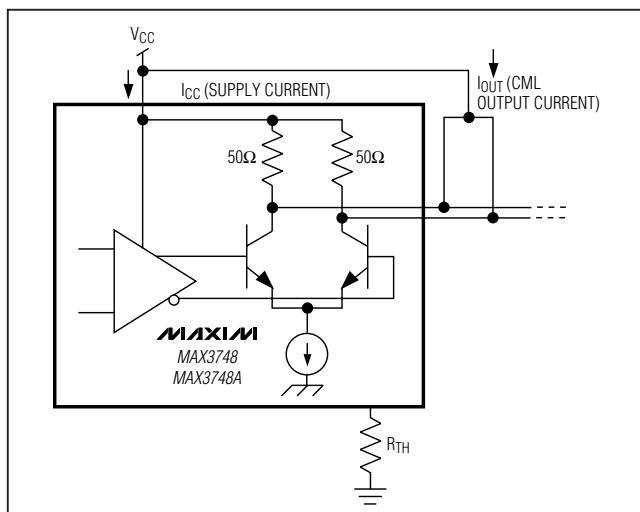

Figure 1. Power-Supply Current Measurement
**Note 6:** The supply current measurement excludes the CML output currents by connecting the CML outputs to a separate  $V_{CC}$  (see Figure 1).